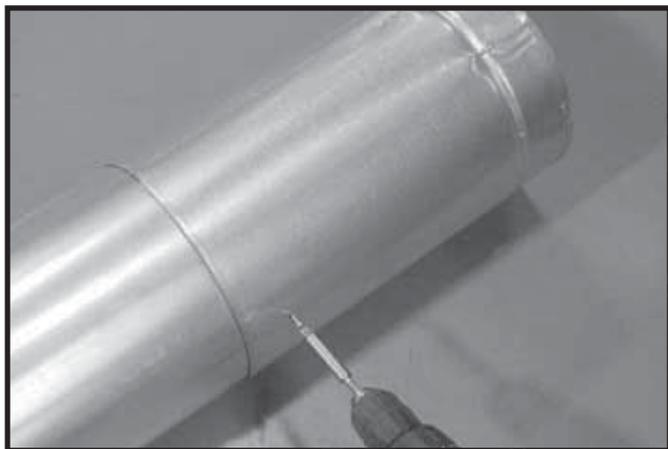

Figure 7.4 Screws into Slip Section
- Secure the pipe and slip section with two screws no longer than 1/2 in. (13 mm), using the pilot holes in the slip section. See Figure 7.4